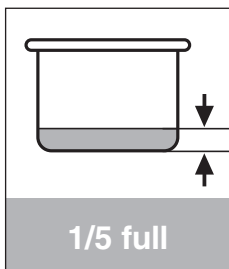

Figure 4
2. Take out the Inner Pot (6) and fill in food and water. Make sure the cooker must never be filled more than 4/5 full or less than 1/5 full. When cooking expandable food, do not fill the cooker more than 3/5 full. See the figures 4, 5, 6.